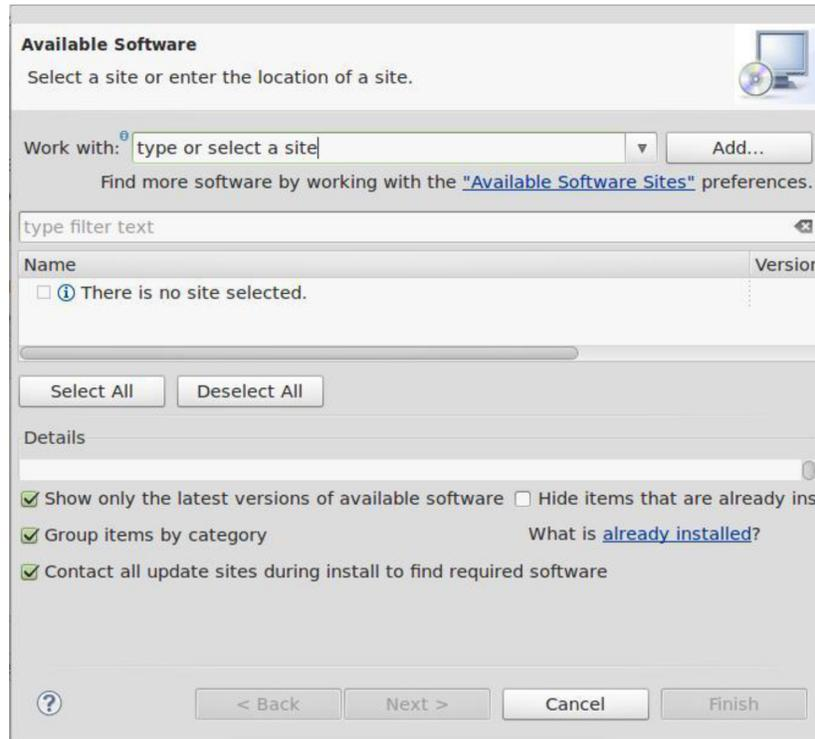

Figure 4. Eclipse IDE (Linux)
2. Start the Eclipse IDE. Make sure that Eclipse is run with administrator privileges to allow for the new installations (see Figure 4). If the Welcome screen is shown, click on the Workbench icon to open the workbench. Then, click Window → Open Perspective → Other... and select the C/C++ perspective. Navigate to Help → Install New Software.